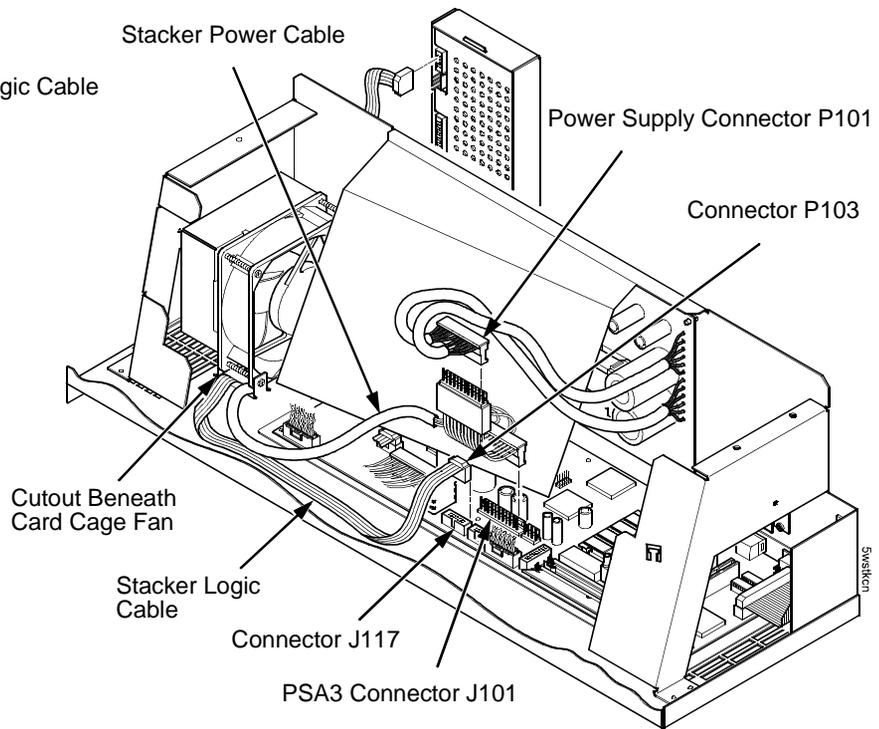

Figure 86. Stacker Power and Logic Cable Attachments on the CMX, CFX, an PPC Controller Boards
5. Connect the power stacker logic cable P103 to connector J17 or J117 on the controller board. (Figure 86.)
6. Disconnect the power supply cable from connector J101 on the controller board. (Figure 86.)
7. Connect power supply cable connector P101 to the stacker power cable, then connect the stacker power cable to connector J101 on the controller board. (Figure 86.)
9. Route the stacker logic cable through the opening between the card cage and the cabinet frame and behind the card cage. (Figure 86.)
5. Connect the power stacker logic cable P103 to connector J117 on the controller board. (Figure 86.)
8. Route the stacker power cable in front of the controller board and down through the cutout under the card cage fan. (Figure 86.)
9. Route the stacker logic cable in front of the controller board and down through the cutout under the card cage fan. (Figure 86.)